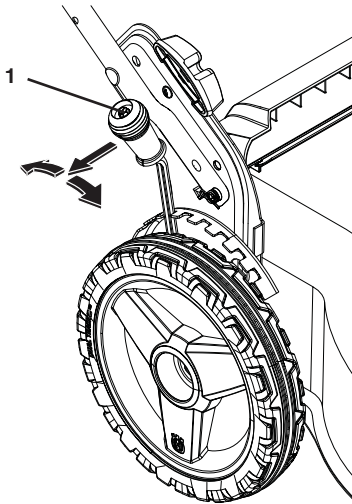

Figure 10
1. Pull adjuster lever toward wheel. To raise mower, move lever forward to desired position. To lower mower, move the lever toward the rear (Figure 10).